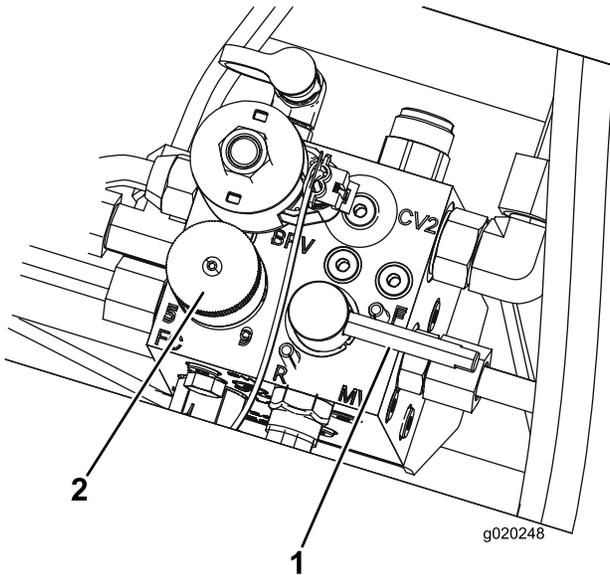

Figure 99
5. Set the reel speed control knob to position 1 (Figure 99).
6. Move the backlap lever to the R (backlap) position (Figure 99).